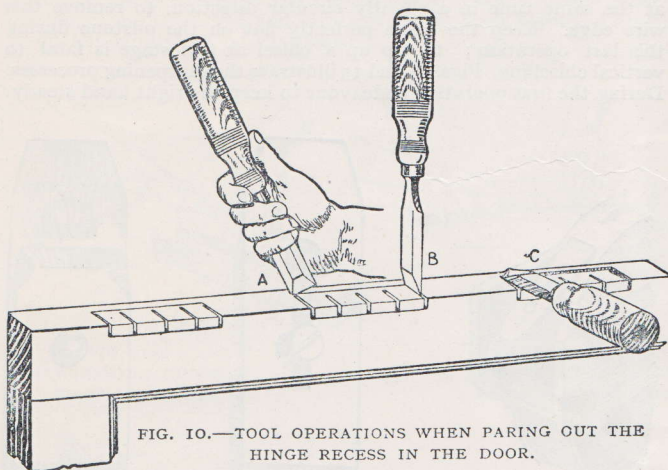

FIG. 10.—TOOL OPERATIONS WHEN PARING OUT THE HINGE RECESS IN THE DOOR.
At Fig. 10 the necessary chiselling operations are given for the cutting of a recess for a butt hinge. The proposed recess has a series of saw kerfs cut into it so as to facilitate the easy removal of the waste wood; after which the chisel is grasped as a knife (A) and the gauge line is deepened. The chisel is then stabbed down-